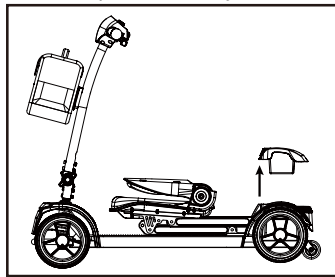

Figure 13 : Battery Removal
2. Grasp both side handles at the rear of the scooter and lift upward to remove the battery from the compartment(see figure 13) .